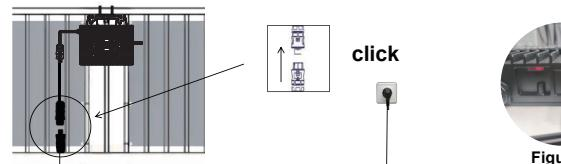

Figure 1
- To avoid additional nighttime power consumption from the machine, the micro-inverter receives power from the panel instead of the grid. If the flexible panels connected in series get sufficient sunlight, the machine LED in the lower left corner will flash red after the dc lines are plugged into the machine (Figure 1). If the LED does not flash, It may be that the sunlight on the panels is not sufficient. In this case, try moving the flexible panels to another location with stronger sunlight.